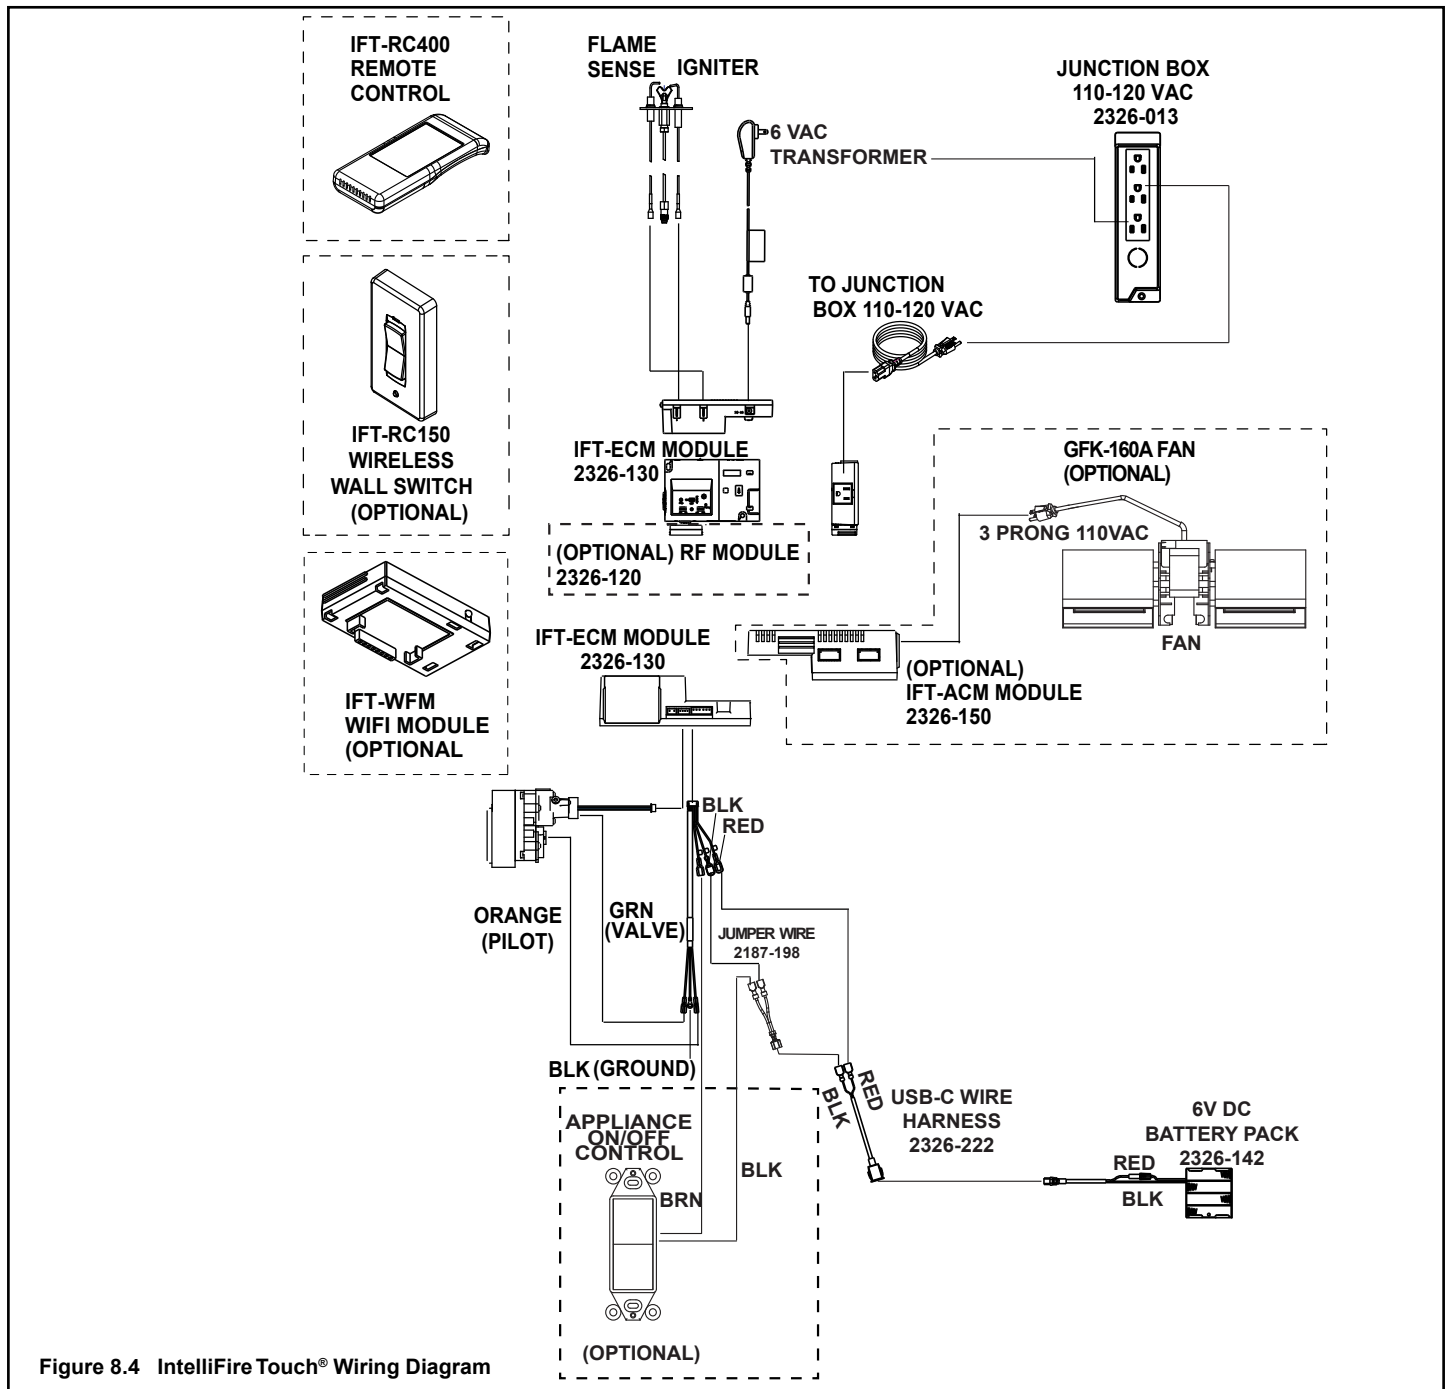

Figure 8.4 IntelliFire Touch® Wiring Diagram
- Refer to Figure 8.4, IntelliFire Touch Wiring Diagram.
- Install and wire the fan per instruction shipped with the fan. Figure 8.4 also shows additional details